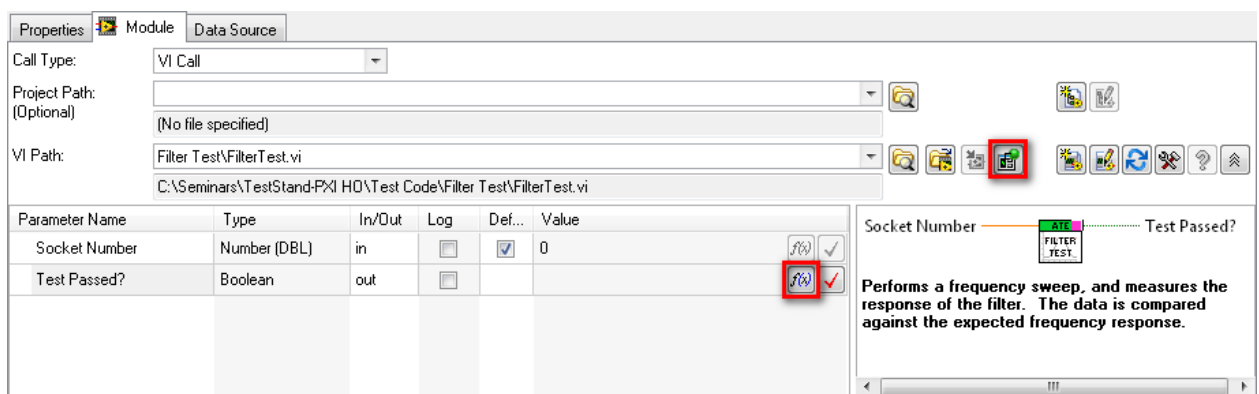

Figure 1-8. Step Settings for Filter Test Window
- Select the **Module** tab in **Step Settings** pane (found beneath the Steps pane) (see Figure 1-8).
5. Configure the VI front panel to be displayed when the step executes by clicking the **Show Front Panel** button  which will turn the icon green (see Figure 1-8).
- Click the $f(x)$ button , to the right of the **Value** field (see Figure 1-8) to launch the Expression Browser Dialog Box.